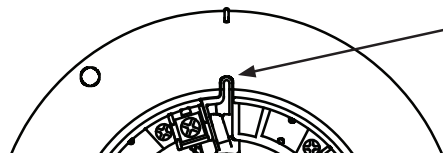

Figure 6: Removing Detector Head from Base
2. To remove the detector from the base once the locking feature has been activated, insert a small screwdriver into the slot on the base to push the plastic tab while simultaneously turning the detector head counter-clockwise (refer to Figure 6).